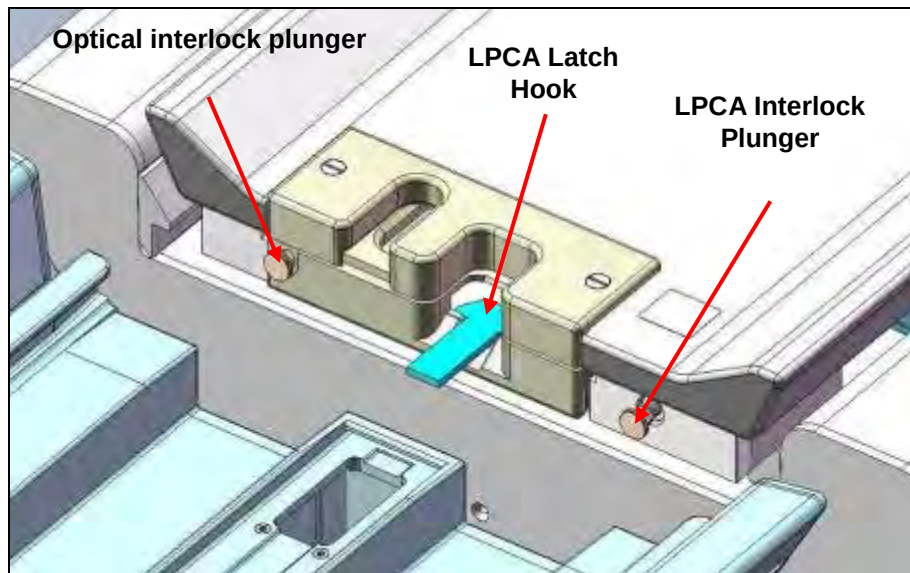

Figure 54 (LPCA not shown)
- The LPCA will latch to the patient support but the scanner LPCA plunger will not sufficiently depress the patient support LPCA interlock plunger. Take note of the distance required for latching to occur (Figure 54).